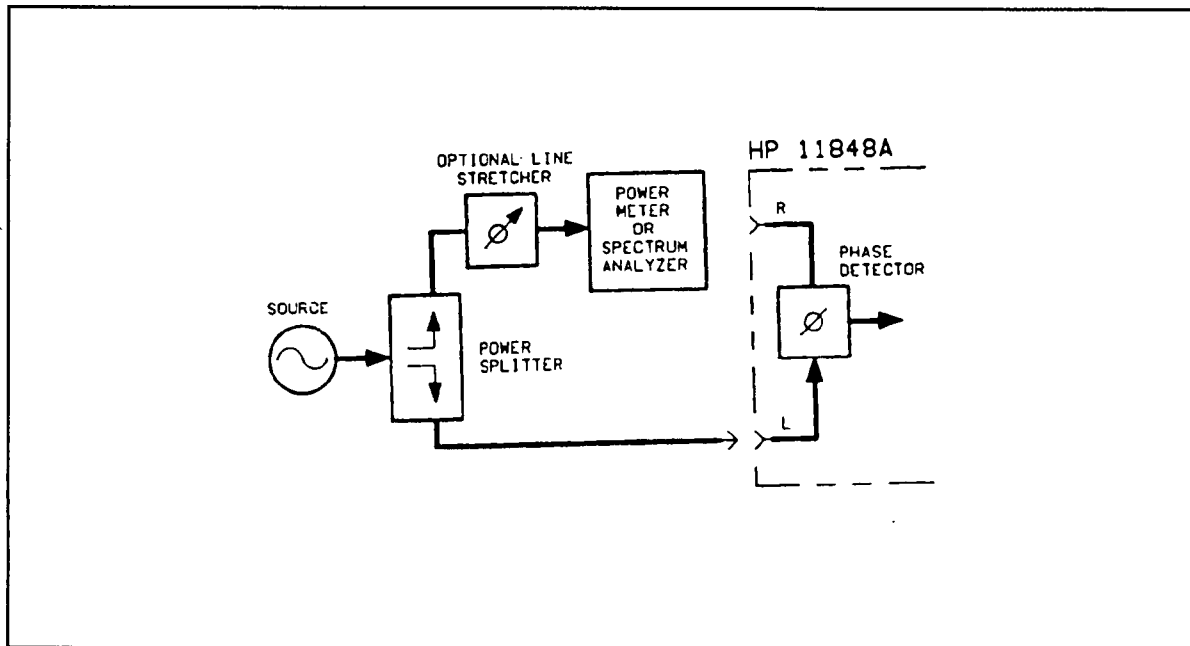

Figure 2-7. Measuring Power at Phase Detector R Port
1. Connect circuit as shown in figure 2-7 and tighten all connections.